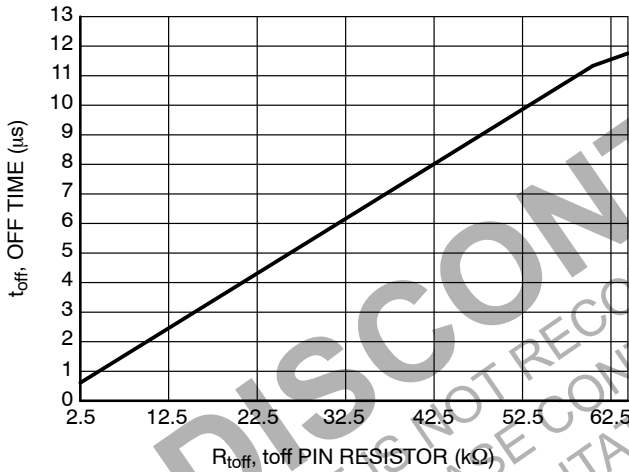

Figure 17. Off Time vs. toff Pin Resistor
5. See Figure 17.
To set t_{off} , the following calculation is used based on the on the approximation of the linear region of the t_{off} vs. R_{toff} transfer function as shown in Figure 17: